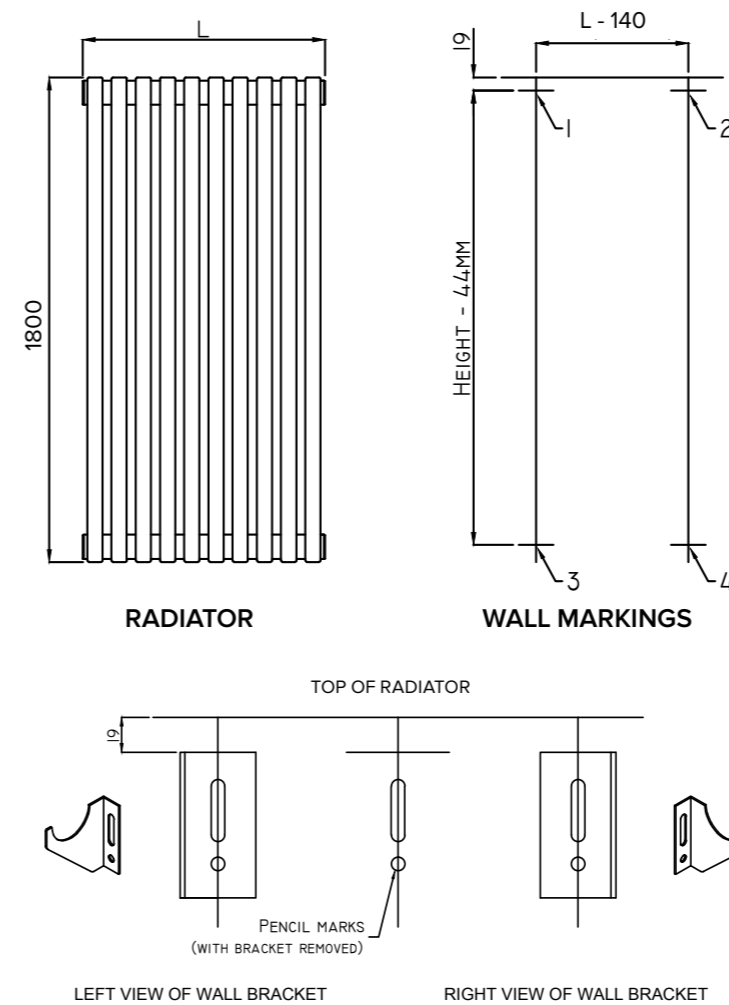

FIG 1
2. Choose the location where you wish to install the radiator and mark the positions for wall brackets with a pencil as indicated in FIG 1.